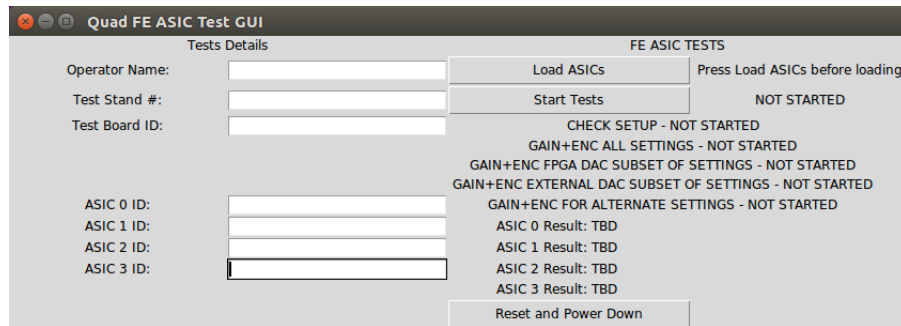
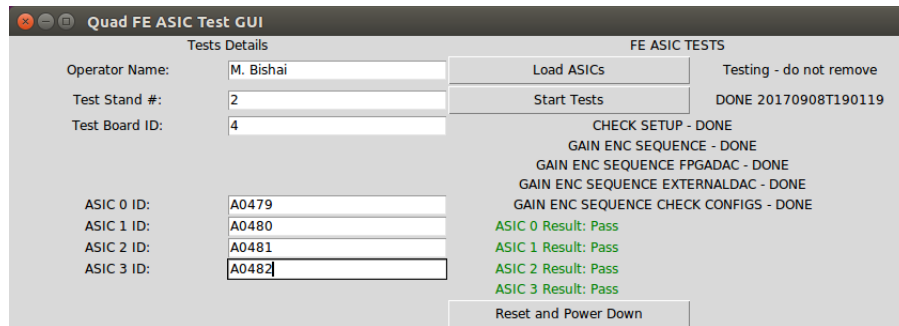

Figure 4: FE ASIC Test GUI at startup.
Figure 5: FE ASIC Test GUI after completing a test run.
3. In the terminal, type "femb.feasic_testgui" and press enter. The GUI should pop up with all fields empty, see Figure 4
2. If the GUI has already finished with a previous run, it will look like Figure 5. In this case, finish the previous run by starting with step 14 below. If the GUI looks like Figure 4, continue with the next step
14. When the test completes, write Pass/Fail as reported by the GUI as shown in Figure 5 (or Error if the run crashes) for each ASIC in the log book and click “Reset”